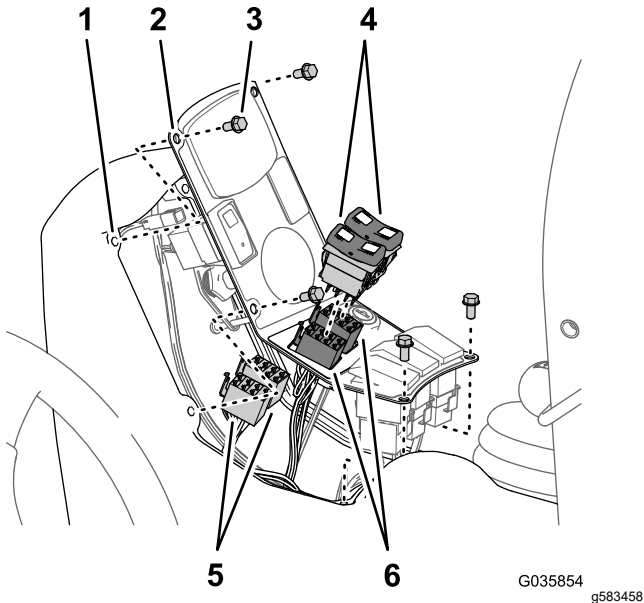
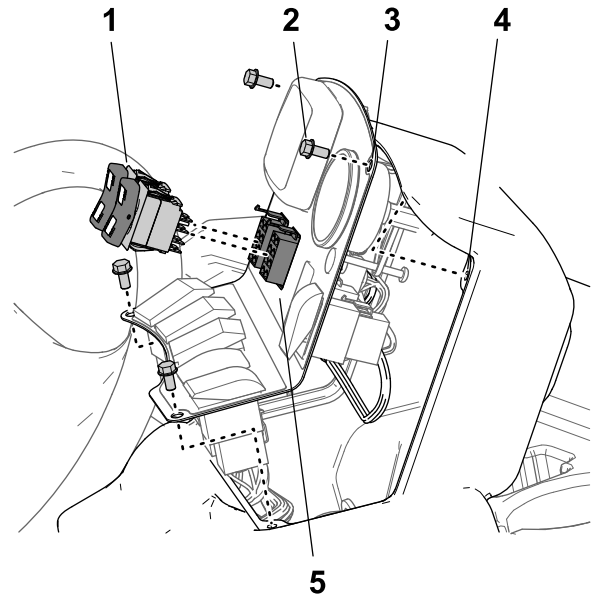

Figure 24
Figure 25
1. Remove the 4 flange-head bolts (1/4 x 1/2 inch) that secure the switch panel to the center console, and lift the panel (Figure 24 or Figure 15).
2. Disconnect the 8-socket connectors of the machine-wire harness from the boom-lift switches (Figure 24 or Figure 25).
3. Connect the rocker switches into the 8-socket connectors of the wiring harness for the ultra sonic boom finishing kit (Figure 24 or Figure 25).
5. Align the holes in the switch panel with the frame of the console (Figure 24 or Figure 25).
6. Secure the side cover on the center console with the 4 flange-head bolts (1/4 x 1/2 inch) (Figure 24 or Figure 25) that you removed in step 1.